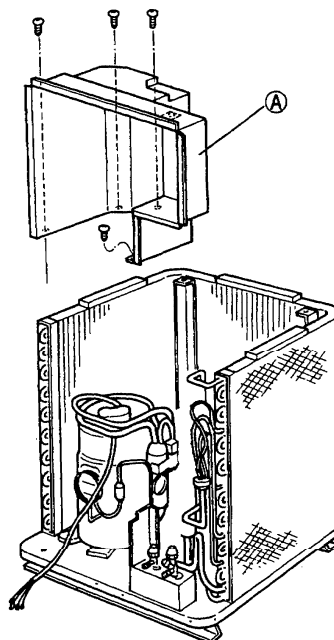

Fig. 10
Unfasten four screws fixing the cover (A). The cover can be removed by lifting it upward. Fig. 10